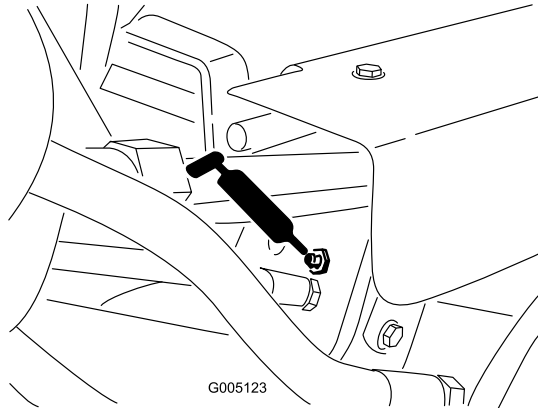

Figure 35
- Lift cylinders (3) (Figure 35)